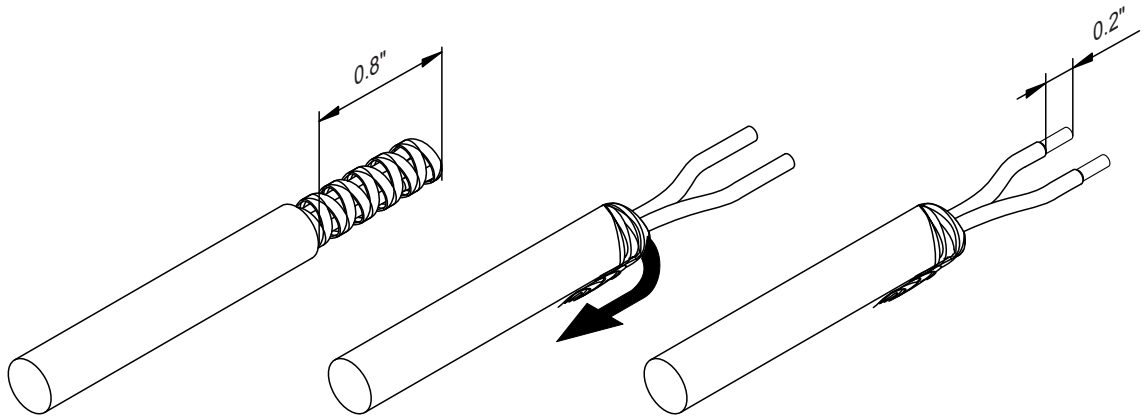

Fig. 10: Preparing the sensor cables
2. Remove cable sheath from the last 0.8" (20 mm) of the sensor cables (see Fig. 10). Do not remove the cable shielding.
3. Pull the cable shielding back over the cable sheath (see Fig. 10).
4. Strip the last 0.2" (5 mm) of the insulation from the sensor wires (see Fig. 10).